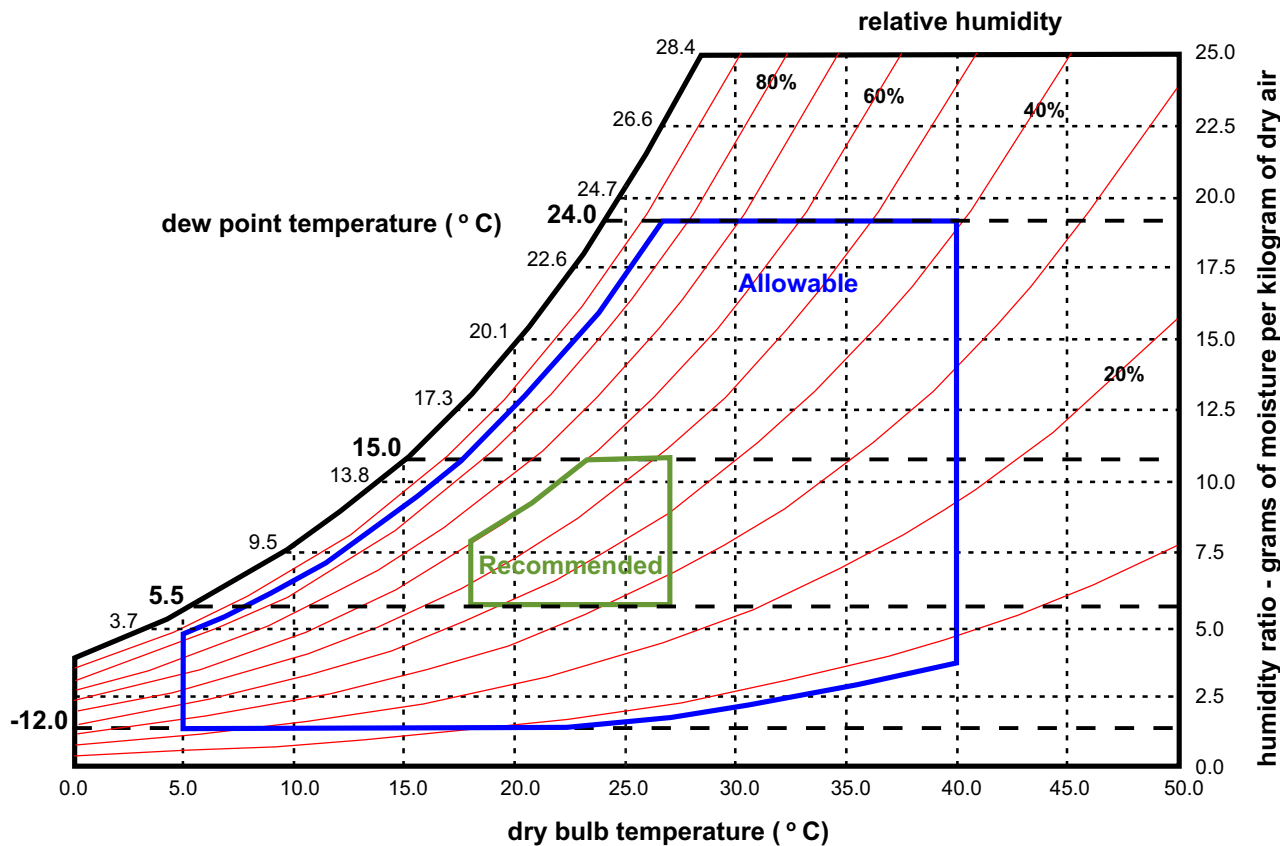

Figure 3. Environmental operating specifications - line graph format
4. The minimum humidity level is the larger absolute humidity of the -12°C (10.4°F) dew point and the 8% relative humidity. These intersect at approximately 25°C (77°F). Below this intersection the dew point (-12°C) represents the minimum moisture level, while above it, the relative humidity (8%) is the minimum. See Figure 3 on page 14 for a graphical explanation of the envelope.
Figure 3 shows the environmental specifications in **line graph** format.